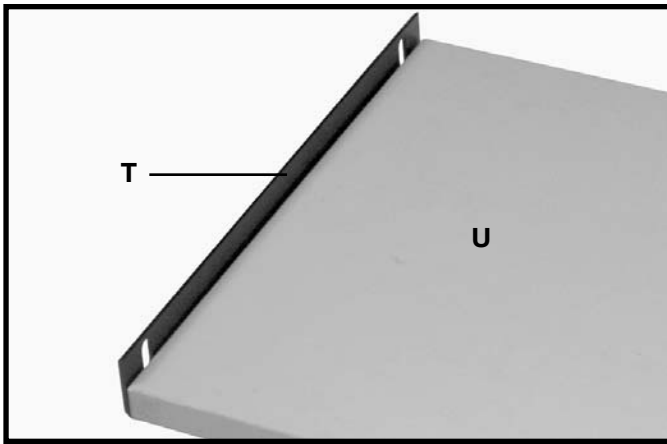

Fig. 71
15. Fasten lower shelf bracket (T) Fig. 71, to one end of lower shelf (U) using two #8 x 7/8 inch-long wood screws supplied as shown in Fig. 71. **IMPORTANT:** The side of the bracket (T) Fig. 71, with the narrow slots should be against the table.
16. Fasten bracket (T) Figs. 71 and 72, to saw cabinet as shown using two 1/4-20 x 5/8" hex head screws, four flat washers, two lockwashers, and hex nuts. Place a flat washer onto a screw and insert screw through bracket and mounting hole in saw cabinet, then place another flat washer onto the screw followed by a lockwasher and then tighten a hex nut onto bolt, repeat this same procedure for the other hole.